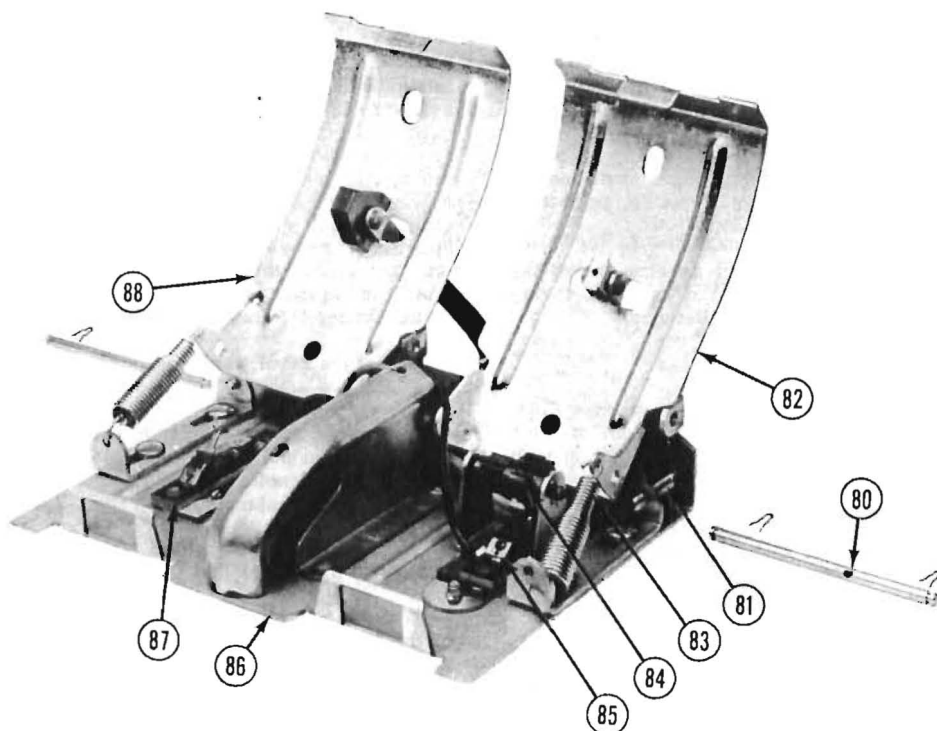

Figure 5
- (a) Check the space between the solenoid anchor pin (66B), Figure 5 and the top of the motor tilt lever (78A). The anchor pin (66B) should clear the motor tilt lever by approximately $1/32''$.
- (a) If the tension of spring (64) on the brake arm (35) is too light, the spool chuck will coast instead of stopping immediately. To correct this, bend the spring anchor arm (35A) to increase the spring tension. See Figure 5.
- (b) If the tension of spring (64) on the brake arm (35) is too great, the solenoid will not be able to seat properly therefore, bend the anchor arm (35A) down slightly to lessen the spring tension.
- (c) After the above adjustment is made turn the control knob to Rewind and check the clearance between the tip of the brake arm (35) and the brake shoe of the left brake arm (57). If there is not at least a $1/64''$ clearance between these two parts, bend the anchor arm (35B) up so as to increase the tension of spring (36).